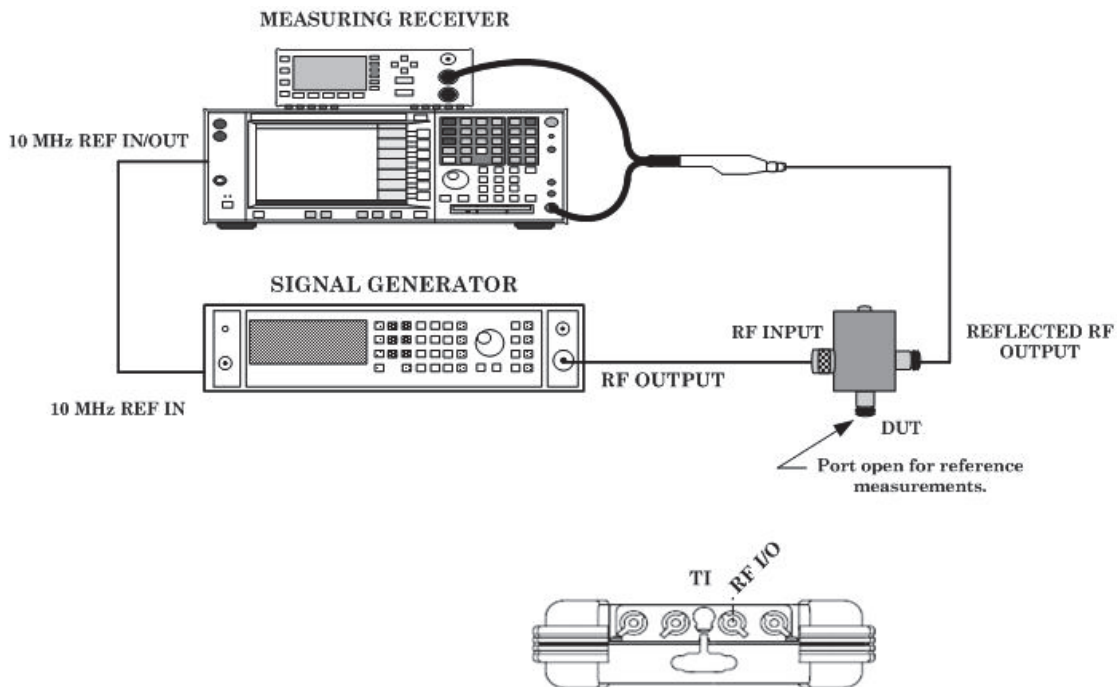

Figure 1. VSWR Setup.
- (1) Connect equipment as shown in figure 1.
- (2) Set signal generator output level to 0.0 dBm.
- (3) Set signal generator to first frequency in table 10.
- (4) Setup measuring receiver in spectrum analyzer mode to measure first frequency in table 10.
- (5) On measuring receiver, press PEAK SEARCH, MARKER and [DELTA] to set up delta marker reference measurement.
- (6) Connect VSWR bridge Device Under Test (DUT) port to TI **RF I/O** connector.
- (7) Measuring receiver delta marker will indicate within the limits in table 10.
- (8) Repeat steps (3) through (7) above for the remaining settings in table 10.